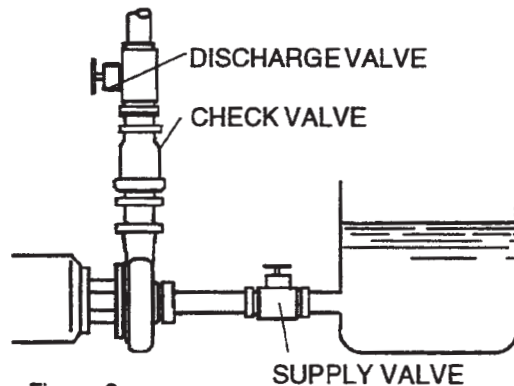

Figure 9
2. Flood the pump casing with liquid BEFORE starting pump to avoid damage to the pump parts. Fill the supply tank with liquid and open supply line valve (suction). Any air trapped in the supply line or casing should be vented. (Figure 9)